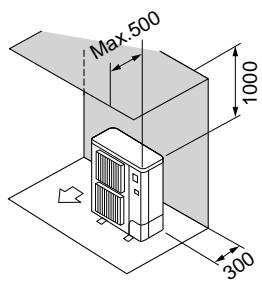

Fig. 2-4
② Obstacles at rear and above only (Fig. 2-4)